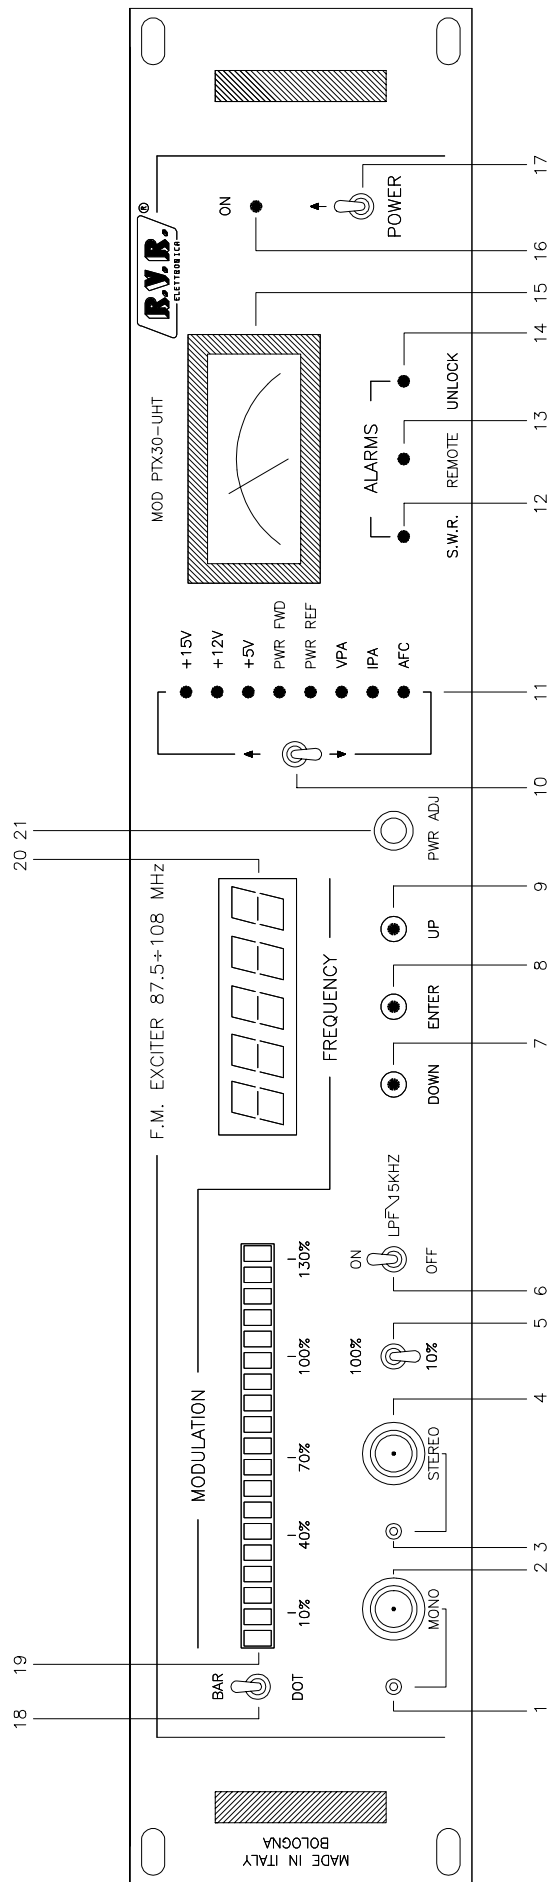
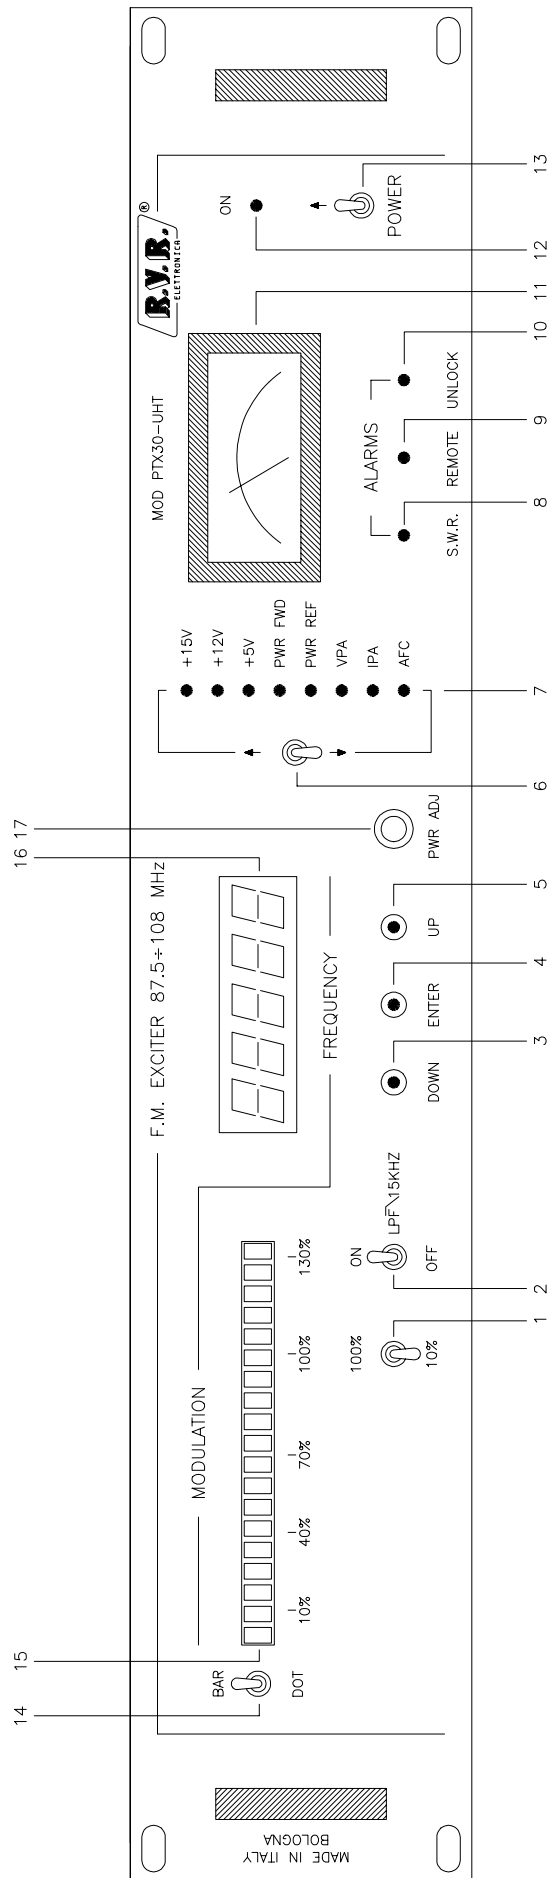

FIG. 1A
FIG. 1B
This circuit also features a red UNLOCK led (14 Fig.1A, 10 Fig.1B), and red REMOTE led (13 Fig.1A, 9 Fig.1B), controlled by the Main Card and a red SWR led (12 Fig.1A, 8 Fig.1B) controlled by the power supply.
In addition there are: a green power led (16 Fig.1A, 12 Fig.1B), a power output PWR ADJ trimmer (21 Fig.1A, 17 Fig.1B) and the mains supply switch (17 Fig.1A, 13 Fig.1B).
VERSION FRONT PANEL VIEW DESCRIPTION (FIG.1A)
'USA' VERSION FRONT PANEL VIEW DESCRIPTION (FIG.1B)
- 2) Now, with a small screwdriver check that the potentiometer "PWR ADJUST" (21 Fig.1A, 17 Fig.1B) be rotated completely counter clockwise (NOTE. The pot has ten turns, so be careful to set it really at the minimum setting). Usually this setting is performed at the factory.
- 5) Place the power switch in OFF position (17 Fig.1A, 13 Fig.1B).
- 6) Insert the mains cable in the VDE socket (1 Fig.1A, 1 Fig.1B).
- 7) Switch the power ON and check that the green indicator PWR glows (16 Fig.1A, 12 Fig.1B), check also the red indicator UNLOCK (14 Fig.1A, 10 Fig.1B) and the green indicator relative to the internal parameters PWR FWD.
After some seconds, the central display (20 Fig.1A, 16 Fig.1B) will light and will indicate a figure (98.00MHz) corresponding to the last used frequency.